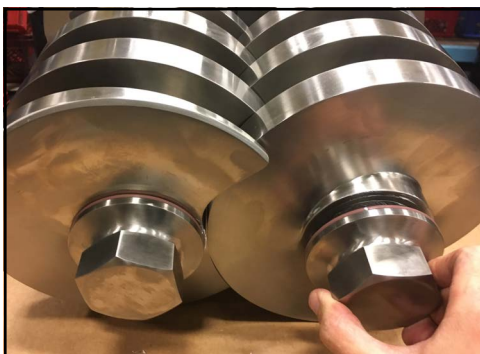

Figure 37 - Remove screw nuts
3. Remove both screw nuts as shown in Figure 37.